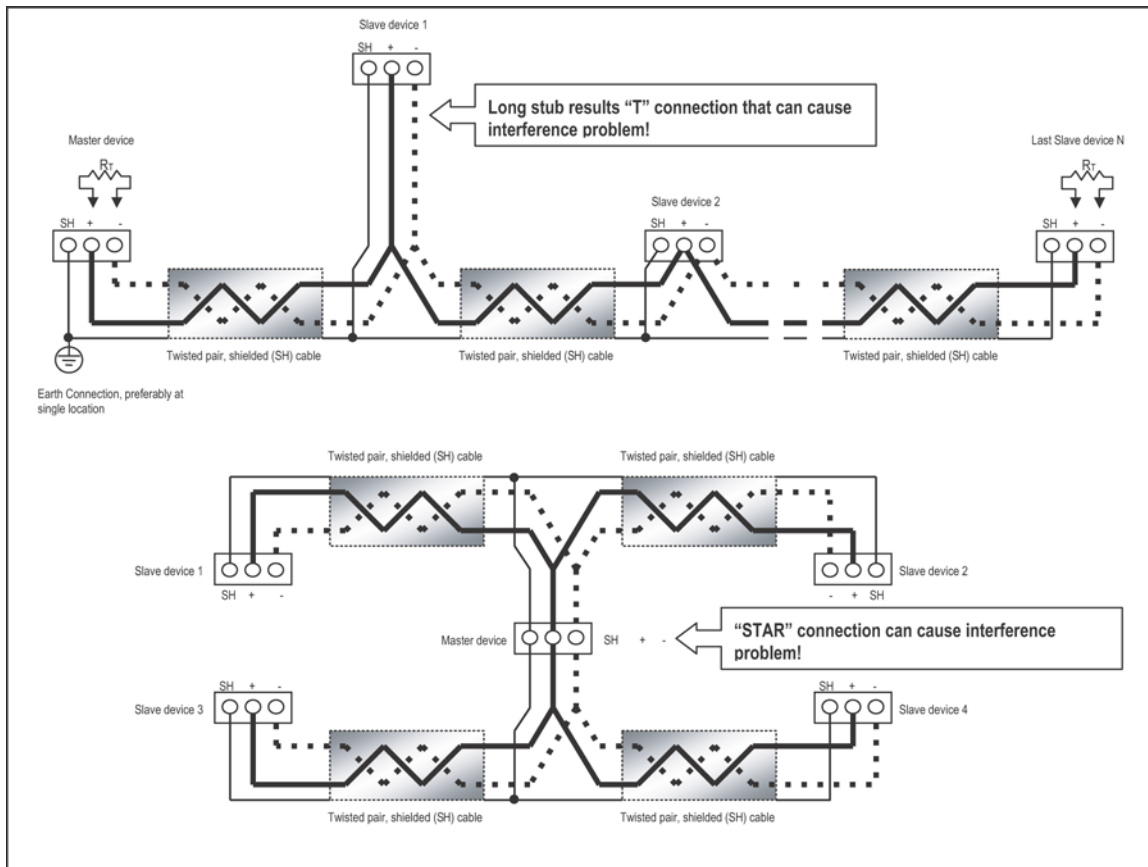

Figure 5-5: Incorrect "T" and "Star" Topologies
- Avoid both "Star" and "Tee" connections (see Figure 5.5).